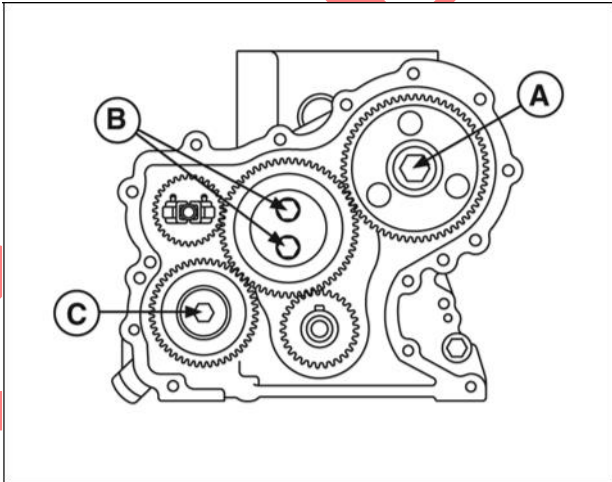

Figure 16
11. Install camshaft gear (A, Figure 16), idler gear (B), and oil pump gear (C). Torque screws to values listed in Section 14 - Engine Specifications.